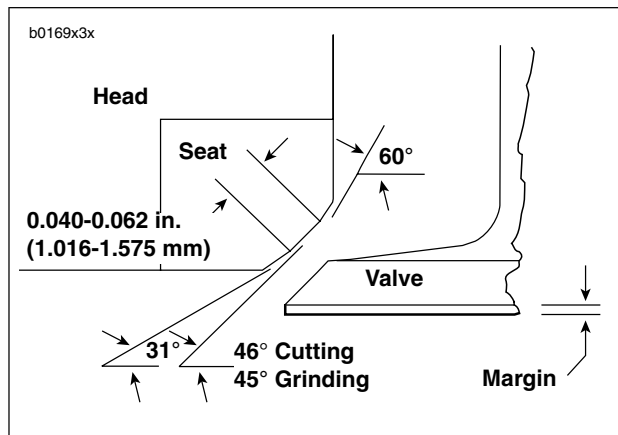
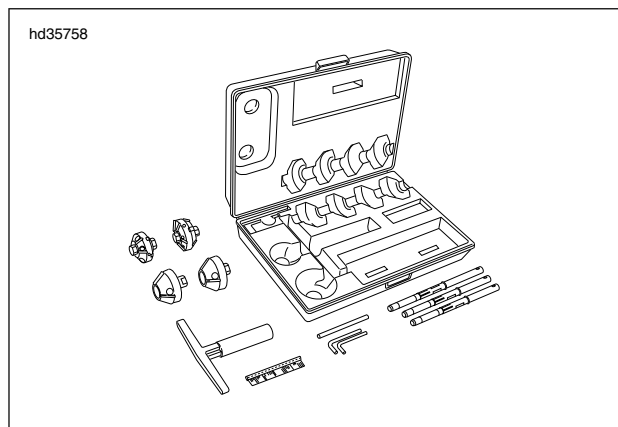

Figure 3-21. Valve Seat Angles
Figure 3-22. Neway Valve Seat Cutter Set (Part No. HD-35758A)
The correct 3-angle valve seat angles are shown in Figure 3-21. Use NEWAY VALVE SEAT CUTTER SET (Part No. HD-35758A) to cut the seats. See Figure 3-22. Always grind valves before cutting seats.
3. See Figure 3-21. Check the contact pattern on valve face. It should be 0.040-0.062 in. (1.016-1.575 mm) wide, and its center should be positioned 2/3 of the way toward the outside edge of face.